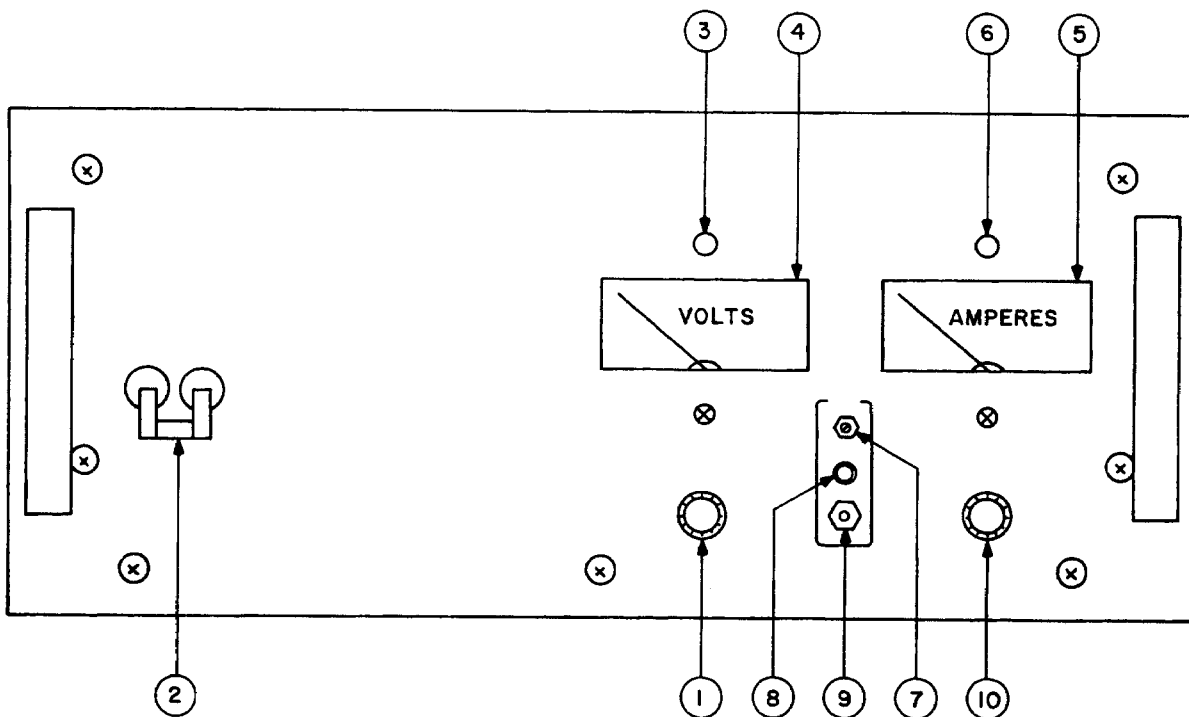
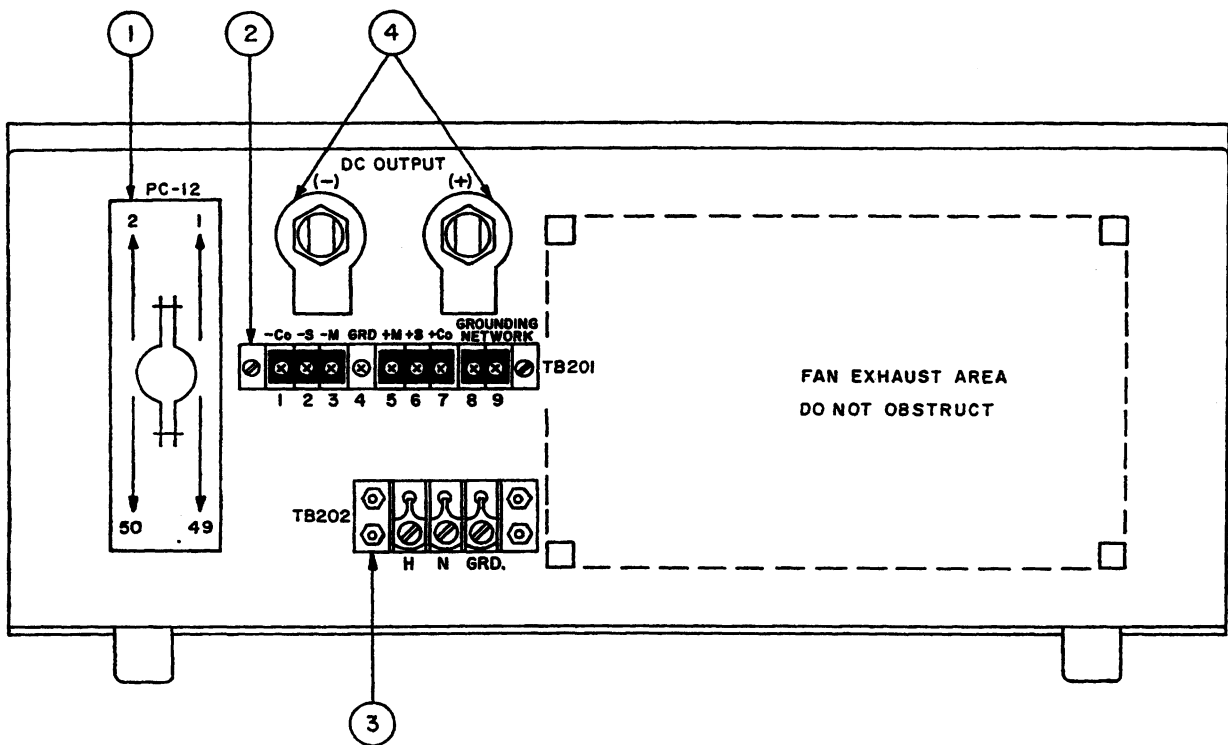

FIG. 2-2 CONTROLS AND TERMINATIONS, ATE FULL RACK GROUP, FRONT.
FIG. 2-3 TERMINATIONS, ATE FULL RACK GROUP, REAR.
- a) FRONT PANEL: Refer to FIG. 2-2 and Table 2-2.
- b) REAR: Refer to FIG. 2-3 and Table 2-3.
2-9 A simple operating check after unpacking and before permanent installation is advisable to ascertain whether the power supply has suffered damage resulting from shipment. Refer to FIG. 2-2 and to FIG. 2-3 for the location of the operating controls and output terminals.
A resistor/capacitor network is connected from the negative monitor terminal to the metal chassis of the power supply. If this internal network is *not* desired, the connection to the chassis can be opened by removing the link (8)-(9) on TB201 (See FIG. 2-3).